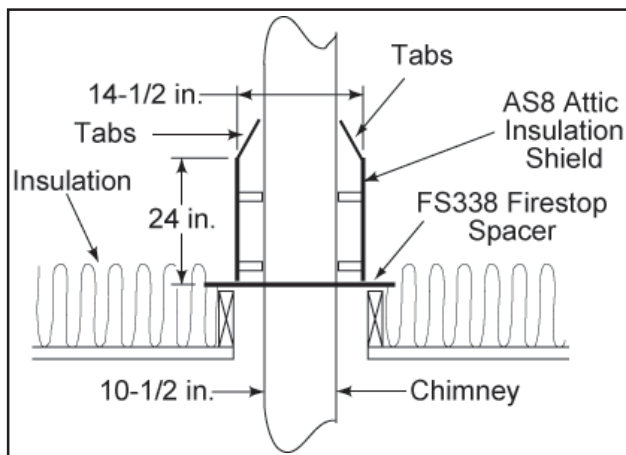

Figure 10 - Installing an Attic Insulation Shield
- c. Slide the shield down until it rests on the firestop spacer. The firestop spacer will support the insulation shield. See Figure 10.